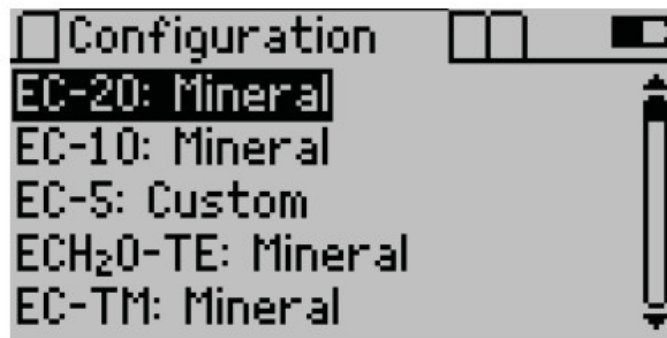

Figure 10 Selecting the sensor type
3. Select the sensor type (**Figure 10**).